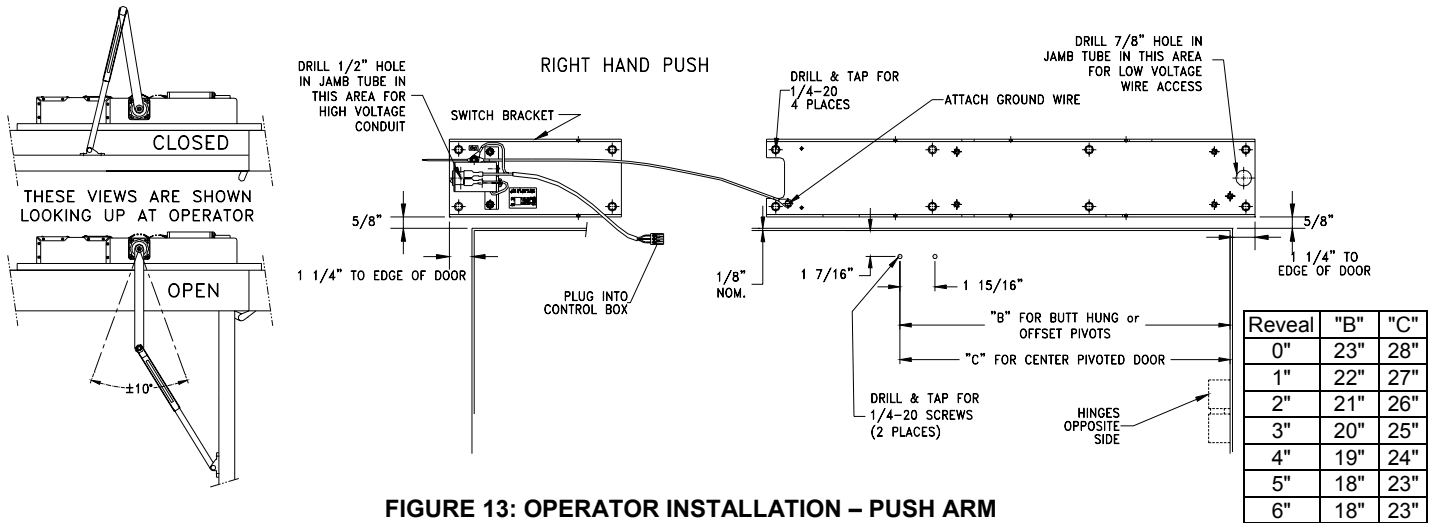

FIGURE 13: OPERATOR INSTALLATION – PUSH ARM
3. Mounting bracket must be installed with the thread studs near the hinge to ensure correct operator orientation. Mount switch bracket as shown (Figure 13).
5. For opposite side door, view will be mirror image of Figure 13.